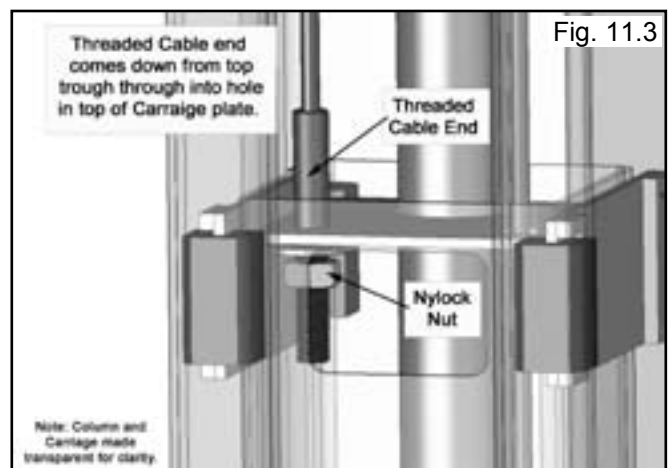

Fig. 11.3
4. Insert the Threaded end of the Cable through the hole on top of the Carriage. Place M-18 washer and M-18 Nyloc Nut on threaded Cable end. Tighten Cable Nuts until taut, checking that both Cables have equal tension. (See Fig 11.3)